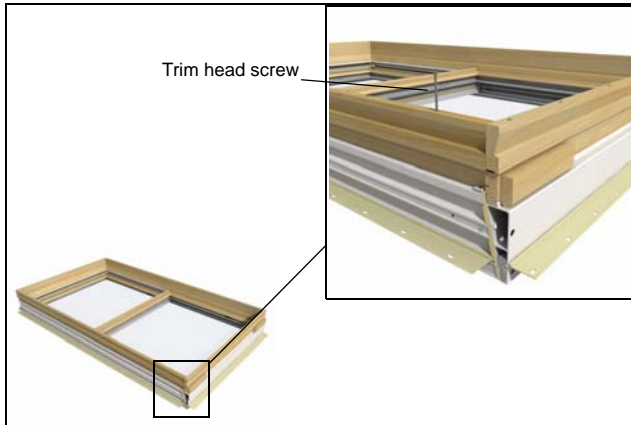

Figure 2
1. Position the jamb extension piece as described in the previous sections and drill a 5/64" (2) pilot hole in the interior face of the jamb extension. Be sure to drill the hole straight through the face without breaking out either side of the jamb extension. Drive the trim head screw and use the appropriate fastener spacing as specified in the previous sections. See figure 2.